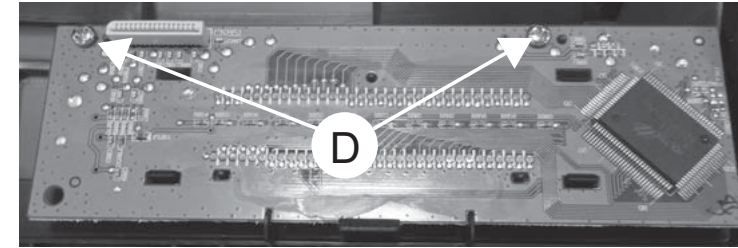

Figure 4
- 1) Loosen 2 screws "D" on the top of LCD Board as shown in figure 4.